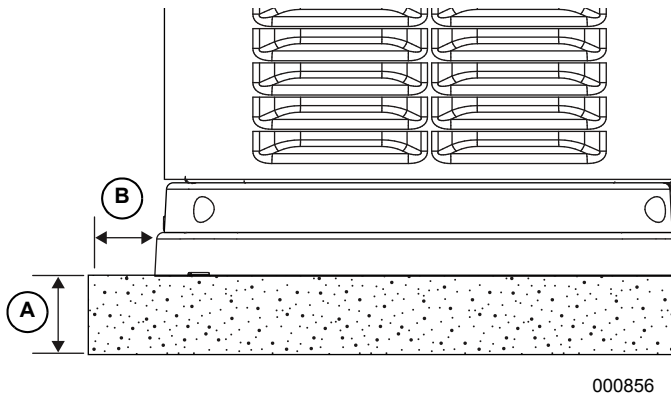

Figure 3-3. Compacted Soil or Gravel Pad
See Figure 3-3. Prepare a rectangular area approximately 127 mm (5 in) deep (A) and approximately 152 mm (6 in) longer and wider (B) than the footprint of the generator. Verify that the surface where the generator will be mounted is compacted, leveled, and will not erode over time. A concrete pad can be poured if desired or required.